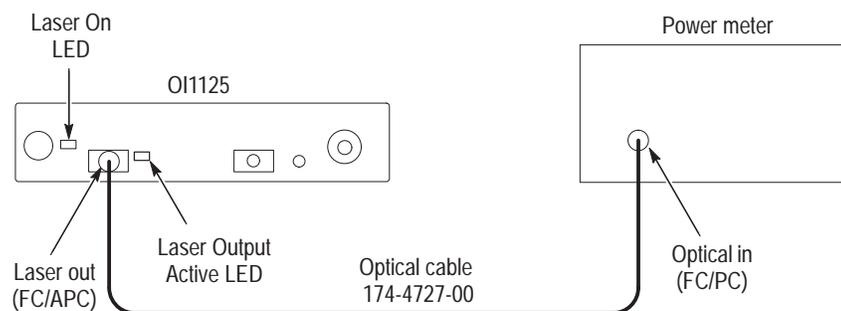

Figure 12: Setup for the output power test
2. Connect the internal laser output to the optical power meter input, using the FC/APC-to-FC single mode cable. See Figure 12.